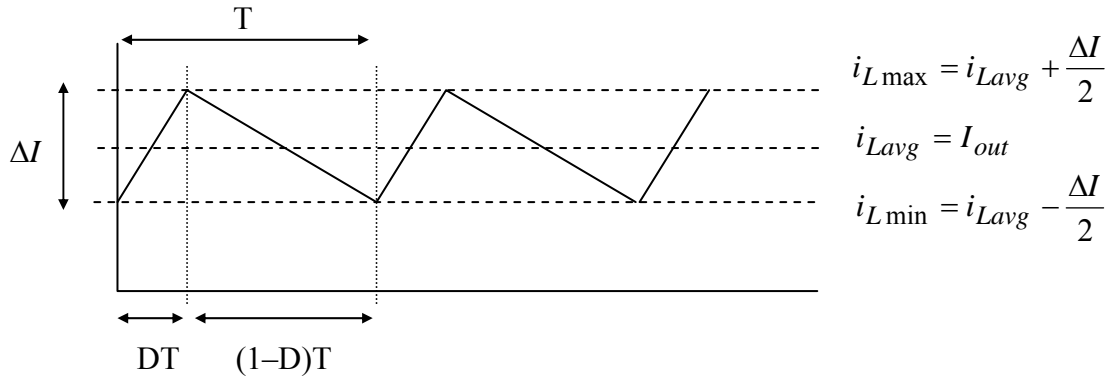
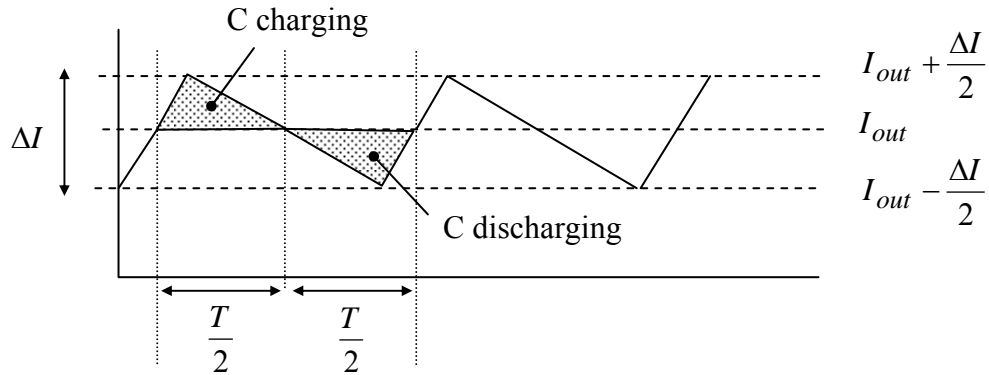
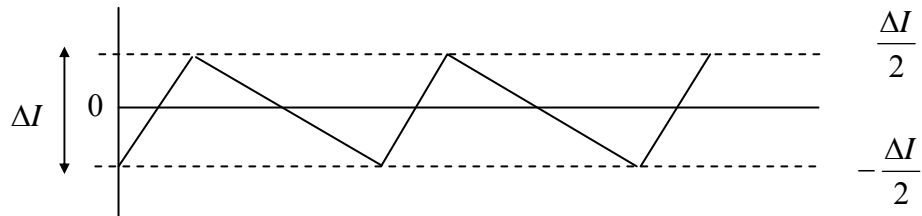

Figure 4. Inductor Current Waveform for Continuous Conduction
Figure 8. Inductor Current Graph Used to Illustrate Capacitor Charging and Discharging Intervals in Continuous Conduction
Figure 10. Capacitor Current in Continuous Conduction
Equations (2), (3), and (5) provide the necessary information to draw a graph of i_L , as shown in Figure 4.
Through the definition of rms, it can be shown that the squared rms value of the triangular waveform in Figure 4 is
Then, considering Figure 4, capacitor C must be charging when i_L is greater than I_{out} , and discharging when i_L is less than I_{out} , as shown in Figures 8, 9, and 10.
Each charging and discharging area in Figure 8 lasts for $\frac{T}{2}$ seconds, and each area represents a charge increment ΔQ for the capacitor. The net charge flowing into the capacitor for one period must be zero in steady-state so that the capacitor voltage is periodic. Using
and the area of the triangular charging region in Figure 8, the peak-to-peak ripple voltage on C must be
Inductor and Capacitor Ratings – The inductor must have sufficient rms current rating for the current shown in Figure 4. The capacitor must support the maximum output voltage (i.e., corresponding to V_{in} when $D = 1$) and the rms ripple current shown in Figure 10. The ripple currents (i.e., total current minus average value) in Figures 4 and 10 are identical because of KCL at the node above C in Figure 1.